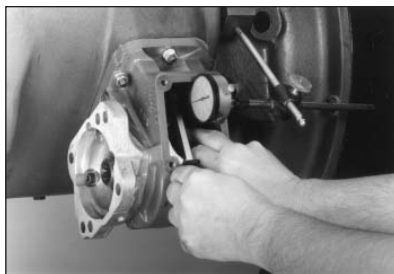

Fig. 10
2. Mount the dial indicator so that it registers movement of the input gear (driven gear) of the PTO (**Fig. 10**).